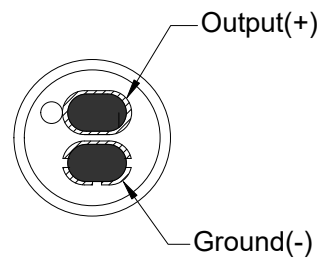

Figure 4. HBO0303C-60 Mechanical Layout
- 4.3.1. Layout and Dimension : See Section 6, Figure 4